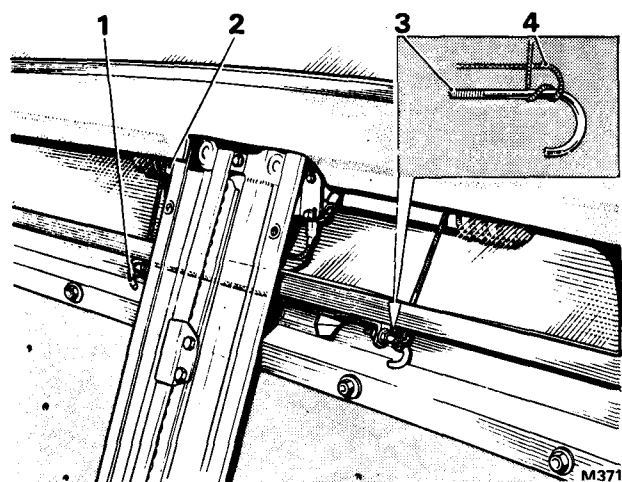

FIG. S63 METHOD OF ATTACHING THE ROLLER CORD TO THE DIVISION GLASS PICK-UP PLATE
8. Pull the free end of the string attached to the roller cord, thereby causing the roller to rotate; keep a firm grip on the string as increasing resistance will be felt as the string unwinds off the roller and the tension is applied. Continue to pull on the string until the looped centre of the roller cord can be grasped, then attach the cord to each of the two hooks on the division glass pick-up plate as shown in Figure S63; ensure that the centre of the cord (point where the string is attached) is mid-way between the hooks. Remove the string from the cord.